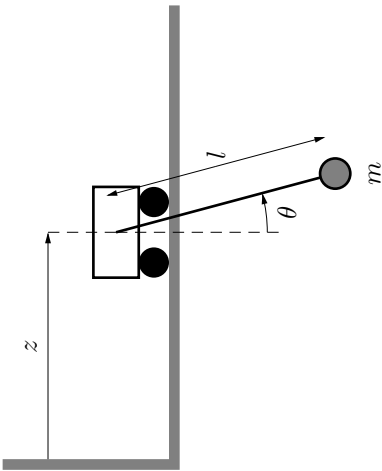

Figure 8.2a
8.2 Consider the system illustrated in Figure 8.2a. It consists of a hinge that can move in the direction marked “z”, and a thereto attached pendulum. The system is described by the equation